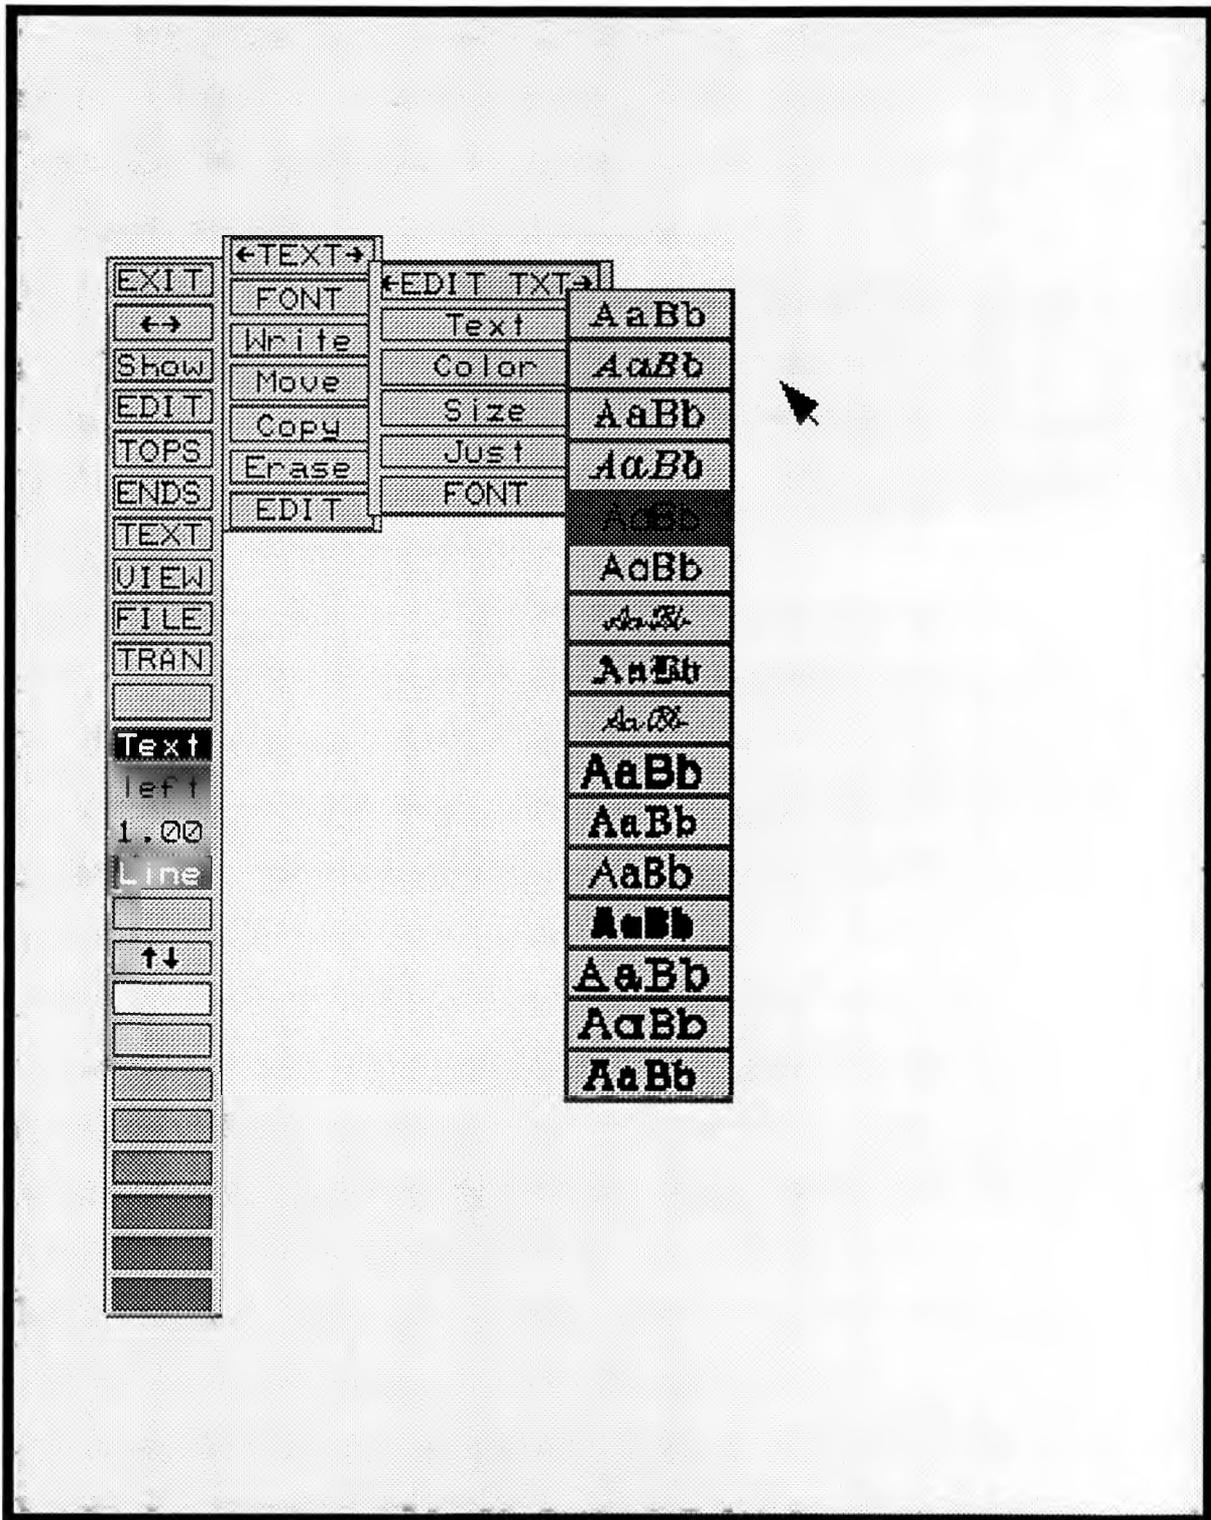

Figure 134. Text font selection menu.
6.2.7.7.6 FONT-- This option allows you to select the font type for selected text. When you select this option an additional pop-up menu will be displayed (Figure 134). Select the desired font type by positioning the cursor over the font and pressing the left mouse button. You